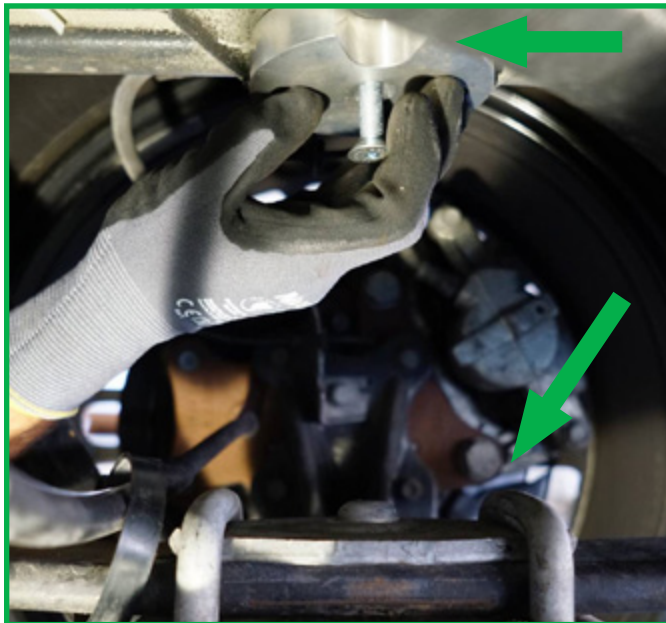

FIGURE 2
2. Remove all dirt and dust and clean the spot at the frame where the serial bump stop was located. Install the upper bracket with the cut out pointing towards the center of the rear axle. Tighten screw with TX6 nut and max. torque of 35Nm. Make sure area between the U-bolts is clean. (Figure 2)